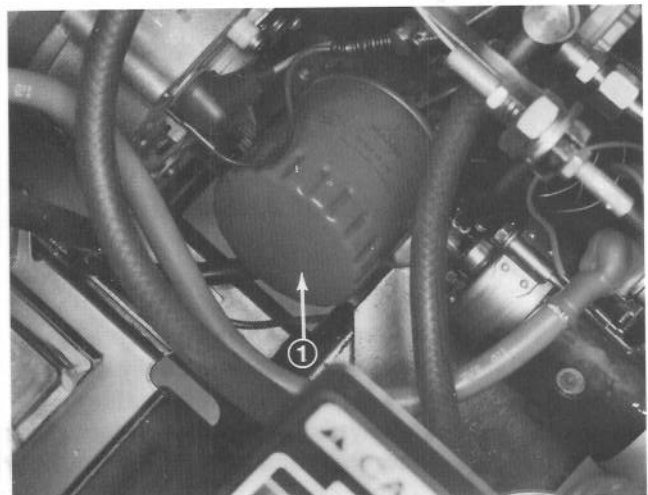

Figure 41
2. Remove oil filter (Fig. 41). Apply a light coat of clean oil to the new filter seal before screwing it on. **DO NOT OVER-TIGHTEN.**